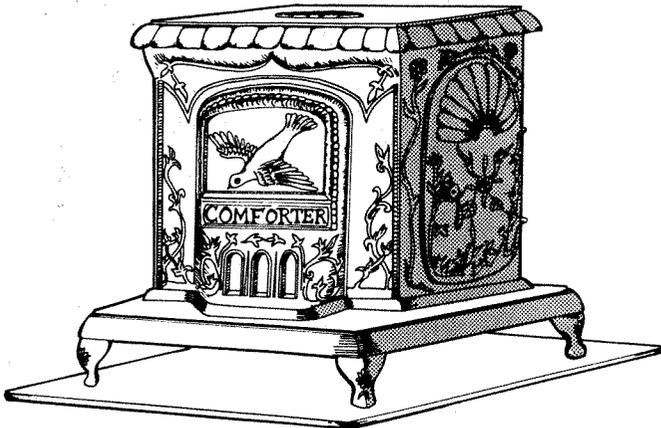

Fig. 19. The Comforter parlor stove.
1. **Abundant Life Farm** (manufacturer), P.O. Box 63, Lochmere, NH 03252. The low height of the flue collar will allow easy installation of the Comforter (Fig. 19 and Table 2) in most fireplaces. Malleable iron is used at special stress points, and it is heat-treated to prevent cracking or warping. The door has a gasket and a "secure-lock latch." A 45-degree baffle with venturi creates a long flame-path and secondary combustion chamber. The air supply is preheated and directed by channeled heat fins.